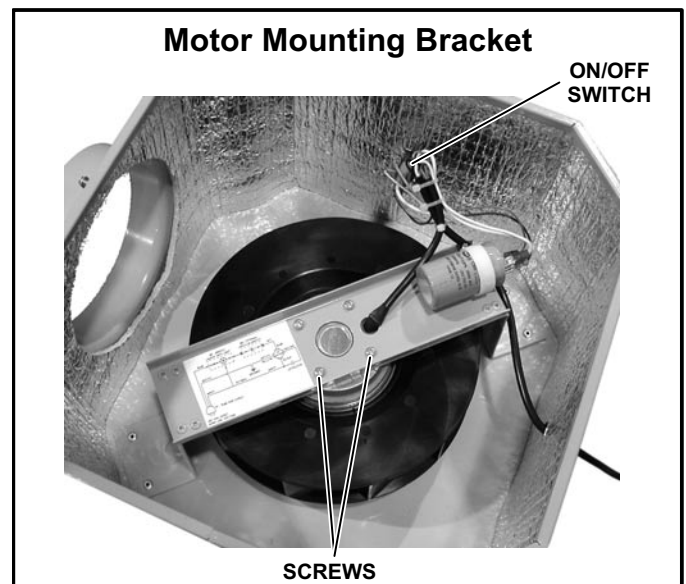

Figure 1
- 3 - Unscrew the two motor bracket screws that are across from the on/off switch. See figure 1.